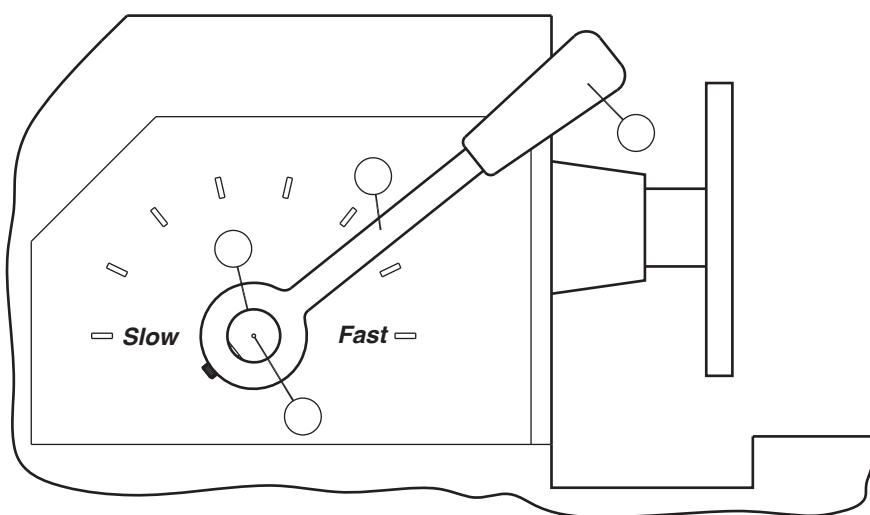

Fig. 2
- 4 Fig. 2 shows the speed control lever on a wood turning lathe.